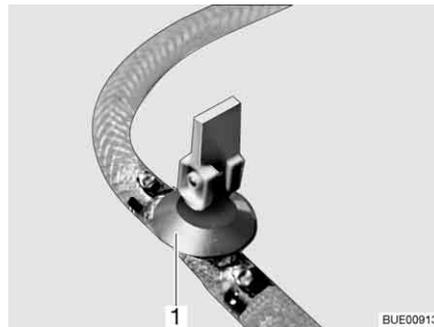

Fig. 184 Drain cock
- Close the drain cock(s). Position the rocking lever (Fig. 184,1) horizontally.
- Open drain cock(s) (Fig. 184). To do so, set the rocking lever (Fig. 184,1) in a vertical position. The boiler is drained to the outside.